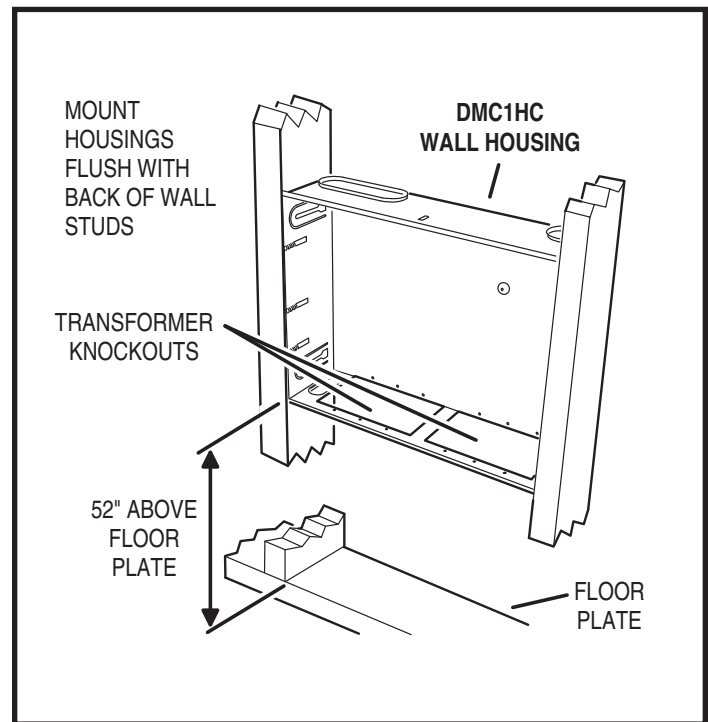

Figure 3. DMC1HC Wall Housing Installation
2. Position the back side of the wall housing flush with the back of the 2 x 4 studs with the bottom edge approximately **52"** above the floor. Be sure the two rectangular transformer mounting knockouts are on the bottom of the wall housing (see Figure 3).